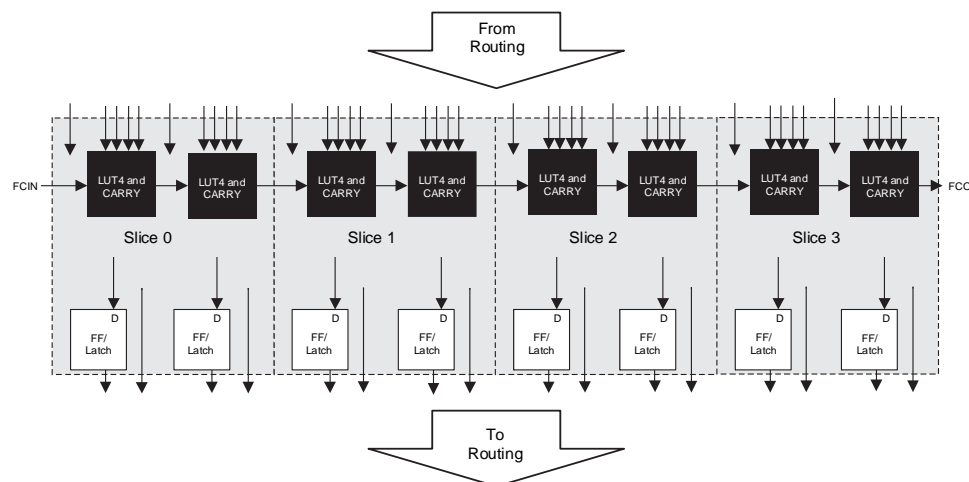

Figure 2.3. PFU Block Diagram
The core of the MachXO2 device consists of PFU blocks, which can be programmed to perform logic, arithmetic, distributed RAM and distributed ROM functions. Each PFU block consists of four interconnected slices numbered 0 to 3 as shown in Figure 2.3. Each slice contains two LUTs and two registers. There are 53 inputs and 25 outputs associated with each PFU block.
1. See Figure 2.3 for connection details.